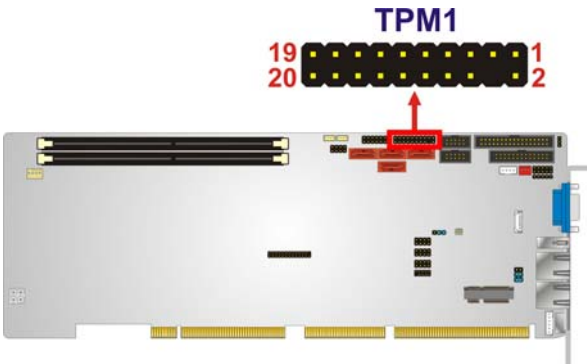

Figure 3-23: TPM Connector Location
- CN Location:** See Figure 3-23